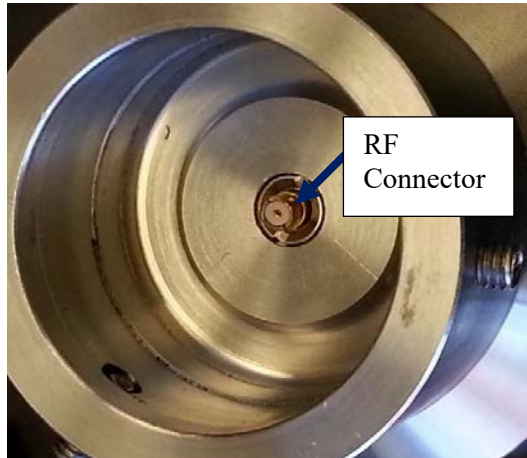

Figure 5-10: Location of RF-connector at bottom of sensor housing
21. Ensure the small RF connector is seated firmly in place, on the bottom of the sensor electronics housing. See Figure 5-10.